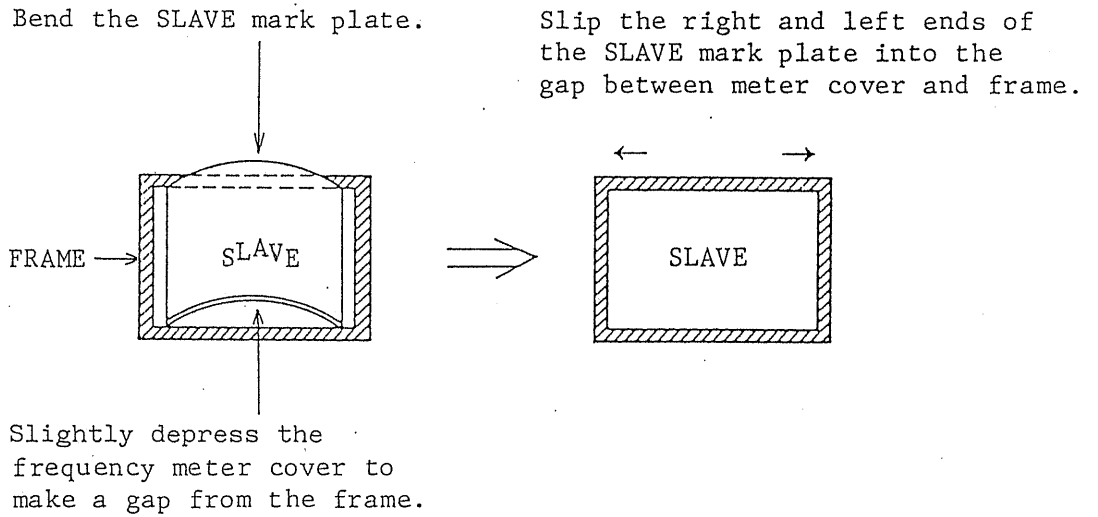

Figure 3-2
- o Post the SLAVE mask plate on each slave unit (at the frequency meter section) as shown in Figure 3-2.